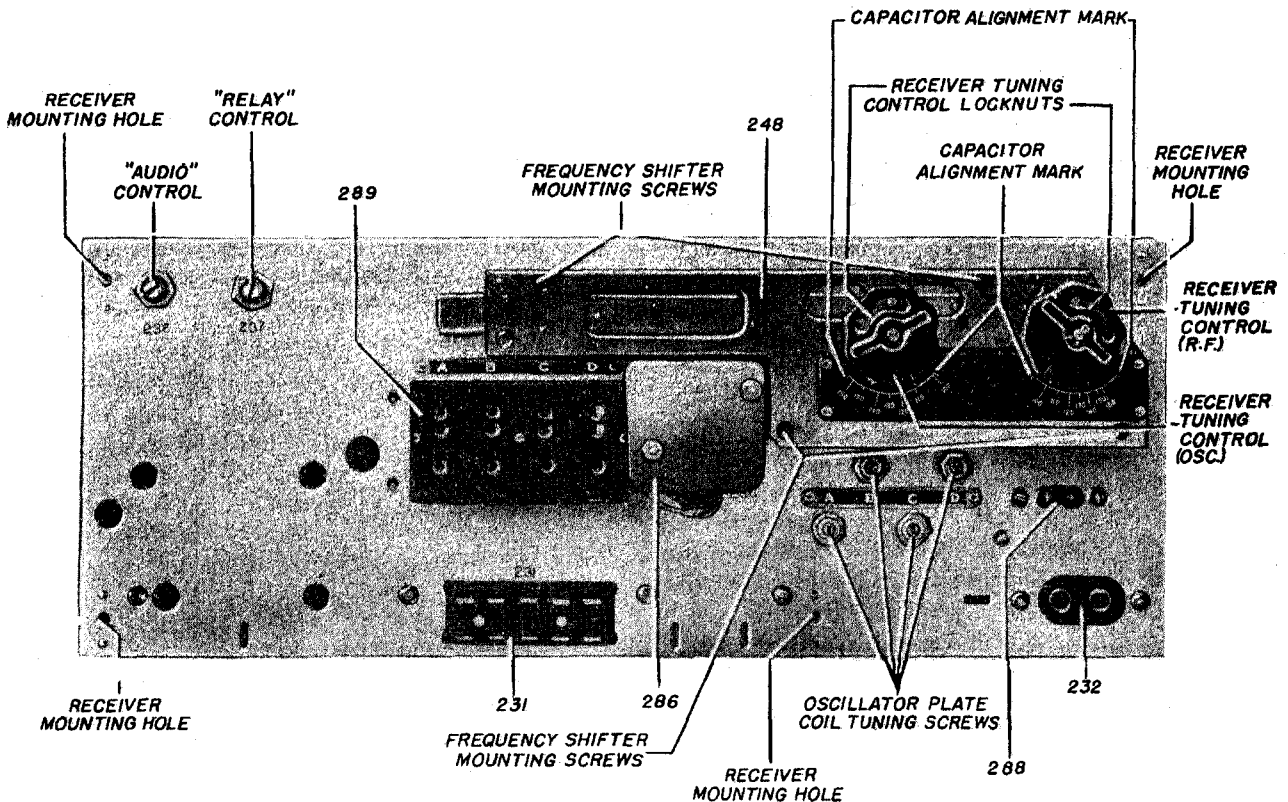

Figure 5-11. Radio Receiver BC-624-A or BC-624-AM—Top View
(4) Remove the transmitter-receiver assembly from Case CS-80-A or CS-80-C.
(5) With Signal Generator I-96-A set up within 5 feet of the radio receiver to be tuned, plug one end of the signal-generator d-c meter cord into the receiver control panel (see fig. 5-11) and plug the other end into the "D.C. METER" socket located on the signal-generator meter panel. Plug the i-f test cord into the signal-generator "I.F. OUTPUT" socket marked "HIGH." Connect the "OUTPUT" terminal of the i-f test cord to the mixer-tube grid lead on the right side of the receiver and connect the "GND" terminal to the variable capacitor frame as shown in figure 8-19. Keep these leads as short as possible and in no case let them exceed 1½ inches. Otherwise the i-f amplifier may feed back and oscillate or be difficult to tune properly.